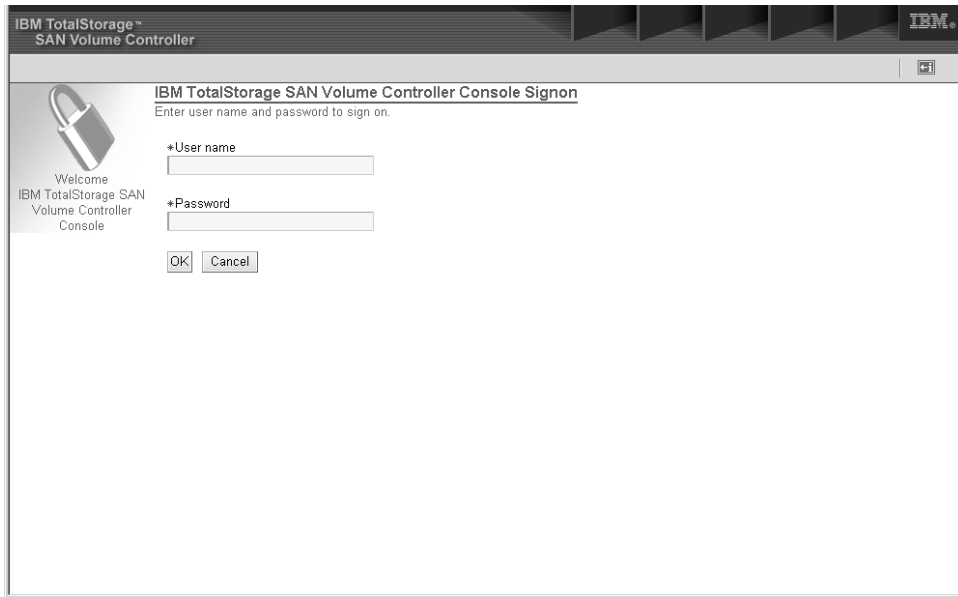

Figure 19. SAN Volume Controller Console sign on panel
1. Log on to the master console using the user name and password provided by the customer. Then, double-click the SAN Volume Controller Console icon and the following SAN Volume Controller Console Sign on panel is displayed. See Figure 19 on page 4.